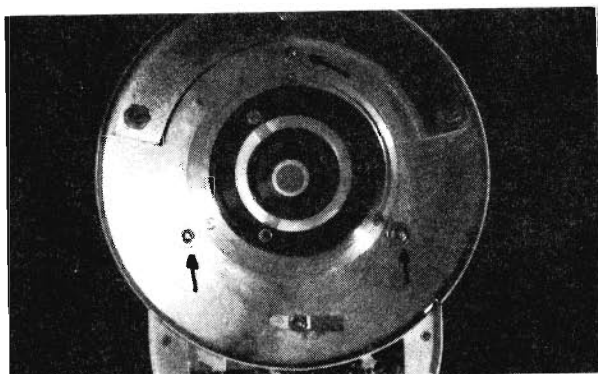

Fig.5 , connection of the II-tube to the shield
- (9) see Fig.5 page 26 remove the 3 bolts from the shield
- (10) remove the shield from the II-tube guide the cables through the cable outlet of the shield
- (11) remove the 3 vibration dampers from the II-tube and mount them to the new II-tube
- (12) guide the cables of the new II-tube through the outlet of the shield and move the tube into the shield.